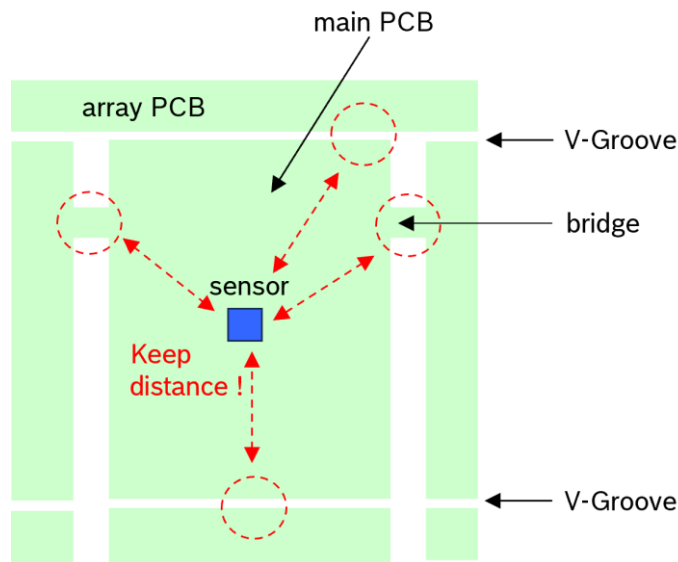

Figure 12: Edge of PCB
- Keep the IMU at least 2 mm away from PCB edges and bridges or V-Grooves (see Figure 12) to ensure optimal performance, as deflection caused by milling drills or saws when separating the PCB can damage the MEMS device.